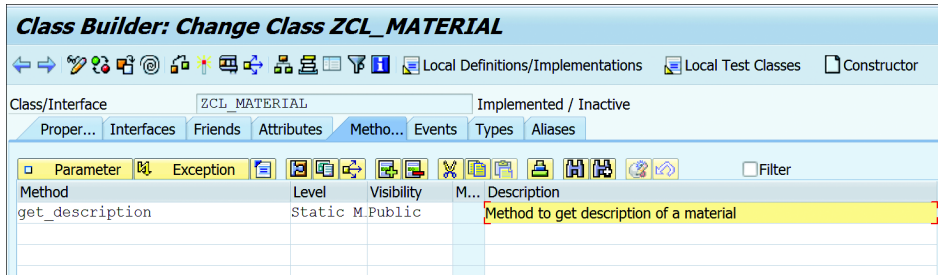

Figure 7.25 Form-Based Editor
4. This will open the form-based editor, with the `METHODS` tab selected by default, as shown in Figure 7.25. The editor has eight tabs that allow you to maintain different properties. For now, use the `METHODS` tab to create a method; we'll explore the other tabs in the next chapter once we discuss the basics of object-oriented programming.